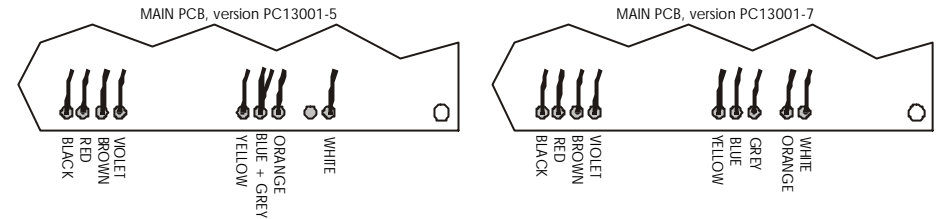

Fig. 7: Placement of power wires
9. Desolder the wires from power supply - see fig. 7.
8. Solder the power wires into the main board - see fig 7.